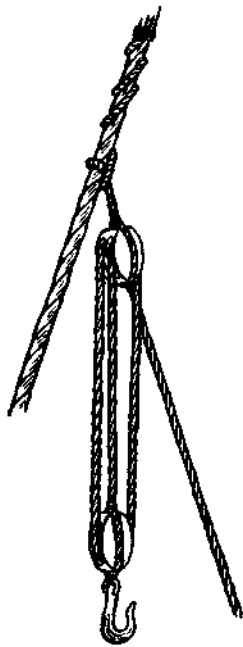

Fig. 113
A **Non-toppling block** is a type used mainly on lifeboat falls. Its tail is decidedly heavier than its crown so that it always stays crown upwards. It has no connexion with a **Tail Block**, which is simply a common block with a tail of rope instead of an eye, hook or shackle at the crown (Fig. 113).
5. Jigger or Handy Billy (Fig. 113). This is a Luff Tackle